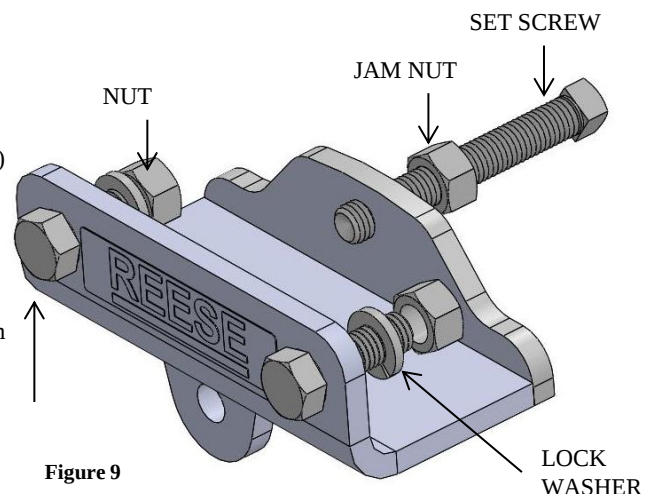

Figure 9
4. Install ½-13 Hex Nuts onto the ½-13 X 3 ½” Square Head Bolts and install into the frame brackets as shown in figure 9.